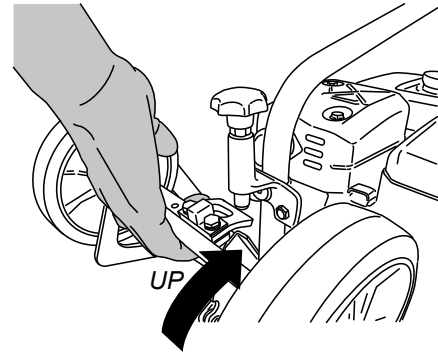

Figure 14. Positioning Axle (Stowed)
3. With your hand, grab hold of the axle bar (Figure 14) and pull upwards. Continue pulling axle upwards until it is hooked to the stopper.